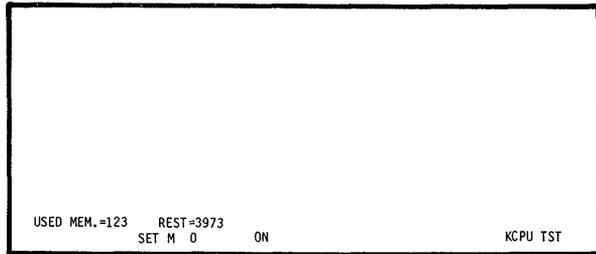

Fig. 12.5
SET M 0 GOCoil of M0 is forcedly set (ON). The screen displays the state of M0 as shown in Fig. 12.5.